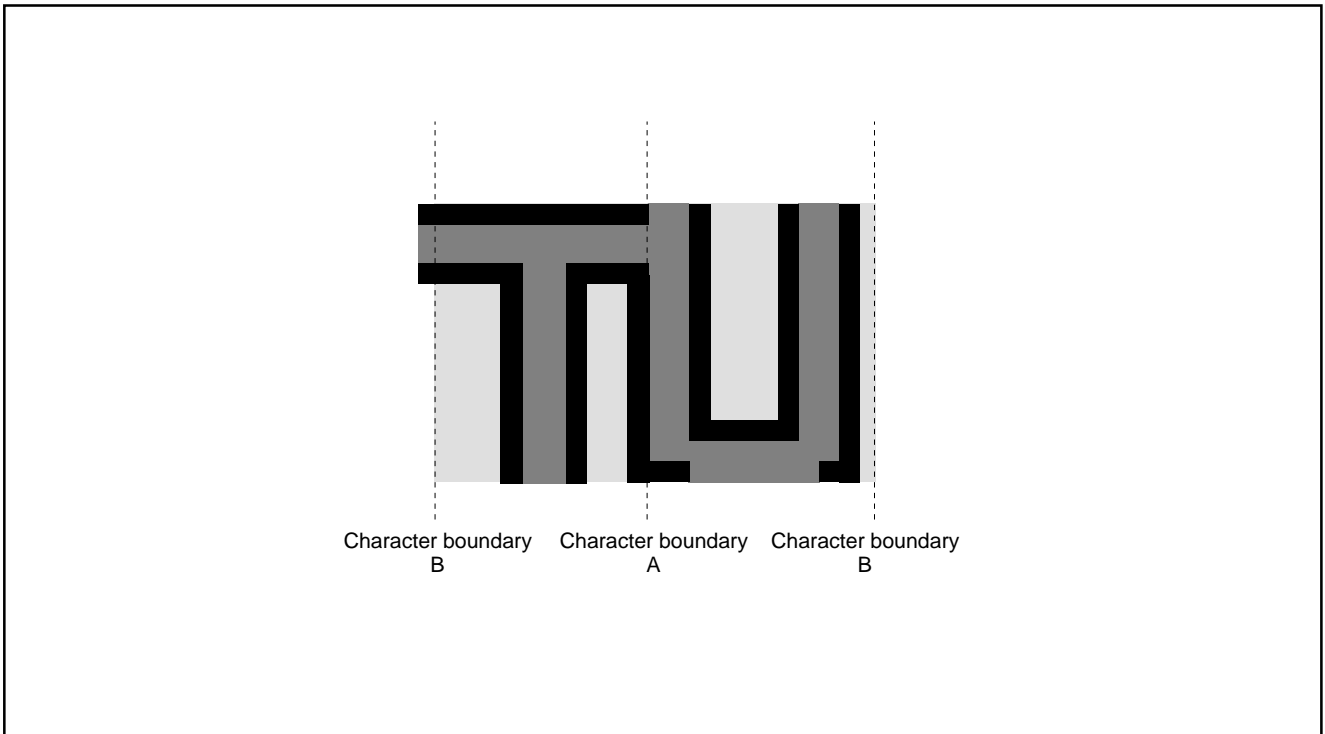

Fig. 8.11.22 Border Priority
**2 :** When the border dot overlaps on the next character font, the character font has priority (refer to Figure 8.11.22 A).
When the border dot overlaps on the next character back ground, the border has priority (refer to Figure 8.11.22 B).
**3 :** The border in vertical out of character area is not displayed (refer to Figure 8.11.22).